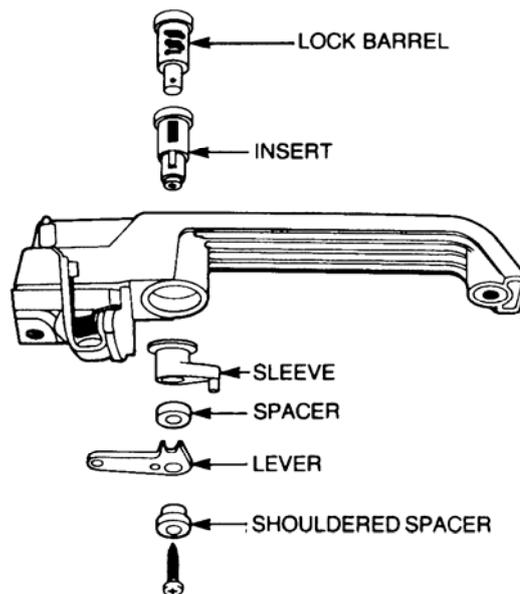

Figure 20 Lock Barrel Removal
- hh. Remove the screws securing the lock barrel lever to the lock barrel (refer Figure 20).